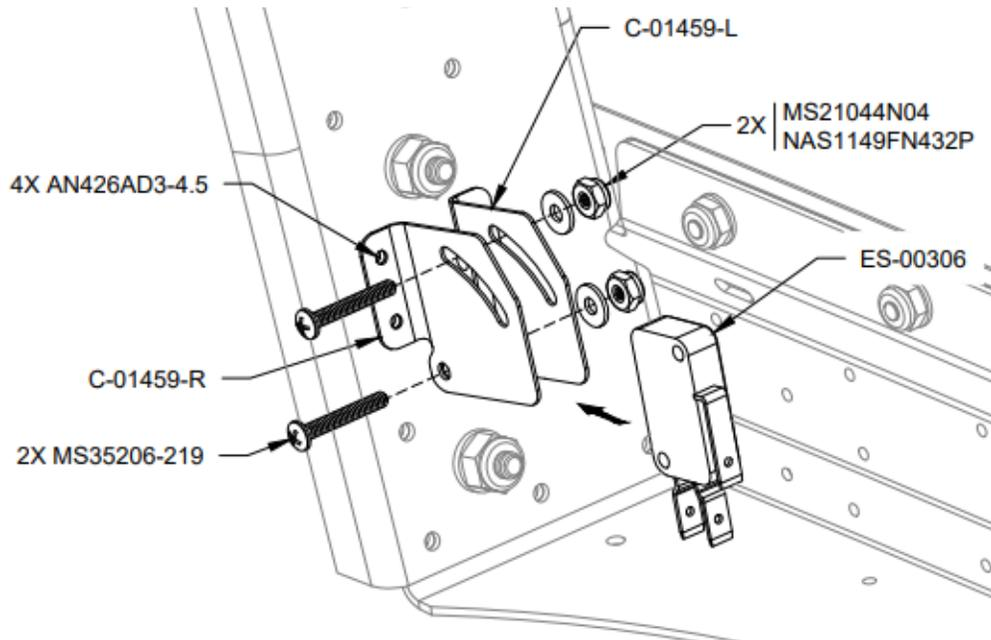

FIGURE 5: SWITCH BRACKET REPLACEMENT
Step 5: Remove C-01445-L and -R Switch Brackets. Install C-01459-L and -R Switch Brackets. Leave the nuts loose, the switch will be adjusted later. See Figure 5.